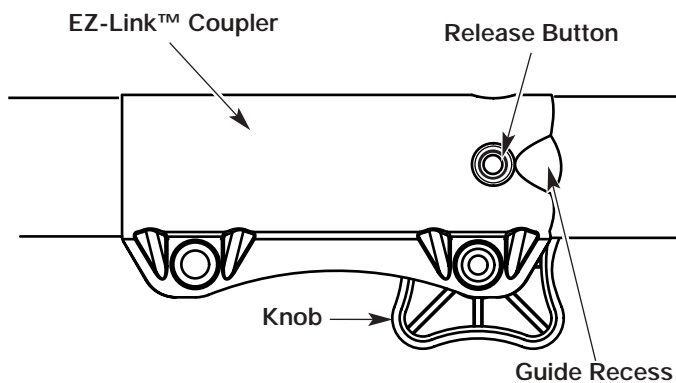

Figure 23
1. Turn the knob counterclockwise to loosen. See Figure 23.
2. Press and hold the release button. See Figure 23.
**NOTE:** Aligning the release button with the guide recess will help installation. See Figure 23.